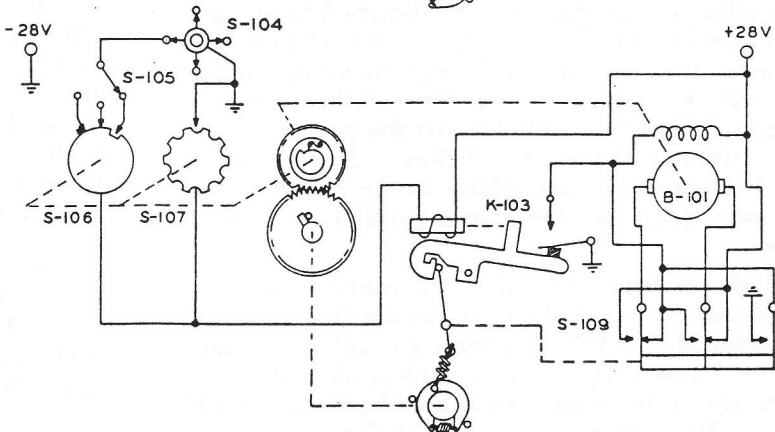

Figure 4-4. Autotune Sequence of Operation (Sheet 2 of 2 Sheets)
b. **SEQUENCE OF OPERATION.**—The sequence of operation is explained fully in figure 4-4.